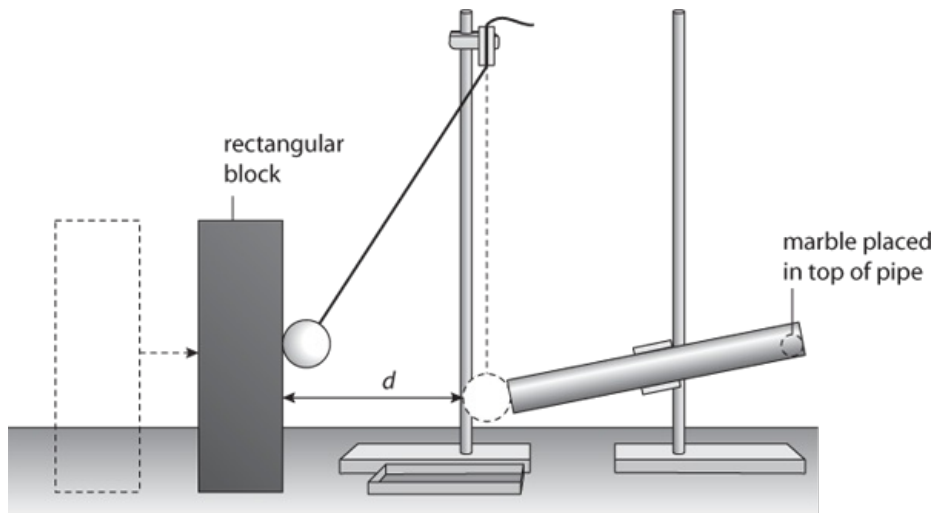

Figure 3.3: As Figure 3.2, but with the marble being inserted in the tube and the block placed at the point that the ball just reaches.
- 4 Place the marble in the top of the pipe so that it rolls down and hits the ball. The ball will swing out a horizontal distance d , as shown in Figure 3.3. Repeat this several times, moving the rectangular block closer until the ball just reaches it as it swings.